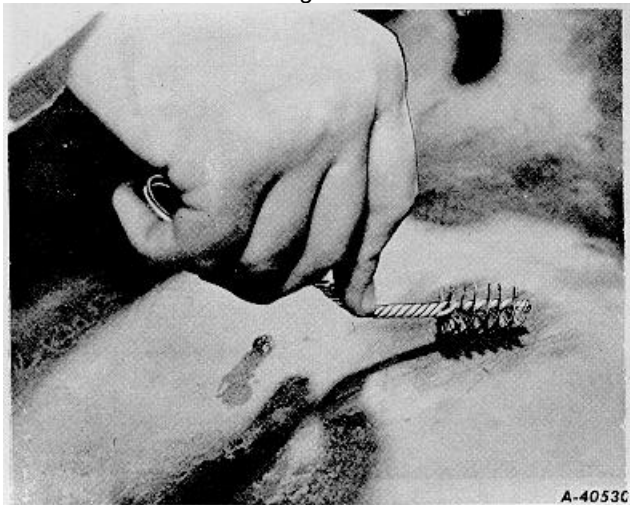

Fig. 17
4. With a wire brush (Fig. 17) or a power buffer, thoroughly roughen an area about the injury slightly larger than patch and within previously cleaned surface area. Re-